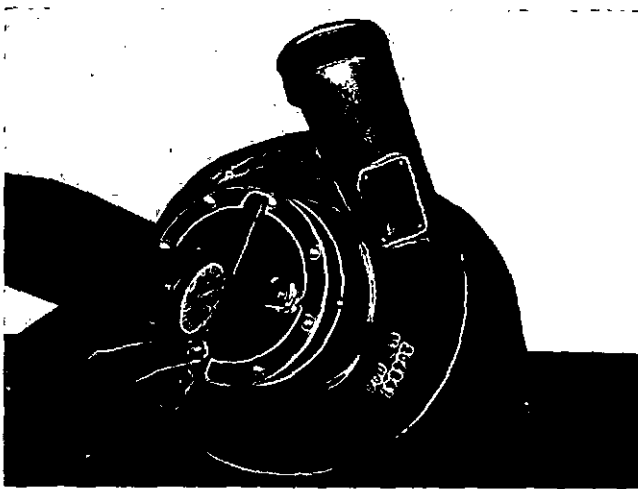

Fig. 3-25, (VTST50). Check the total end clearance
18. Use a dial indicator to check the total end clearance, Fig. 3-25. The rotor end clearance must be within 0.006 to 0.018 inch [0.15 to 0.46 mm].